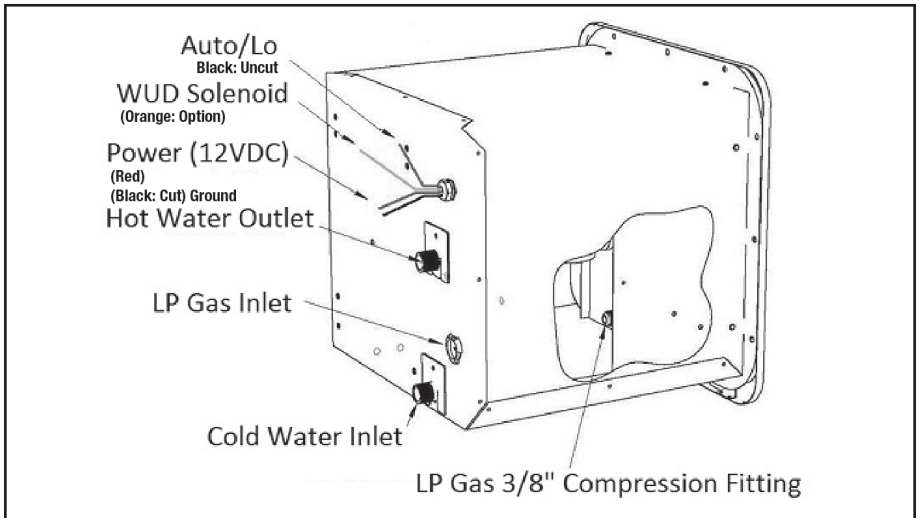

Figure 2
Partially insert the water heater into the opening and connect both Hot and Cold water lines to the appropriate 1/2"NPT fittings. Connections can be made using PEX swivel nut adaptors with NPS straight threads and a cone seal or with a standard 1/2"FPT nut. The PEX swivel nuts require only hand tightening. When using a standard 1/2"FPT nut use Teflon tape and/or PTFE pipe paste and do not over-tighten (Figure 2, page 6).
Connect the gas using a 3/8" LP Gas line. Place the grommet on the line ahead of the compression nut before flaring the tube (Figure 2). Use additional caulking as needed to complete a permanent seal with the housing around the rubber grommet.
- The length of the external wires, those wires extending beyond the strain relief from the rear of the housing (Figure 2), must NOT be shortened for any reason. Shortening these wires will prevent the removal of the Control Housing during servicing and/or testing.